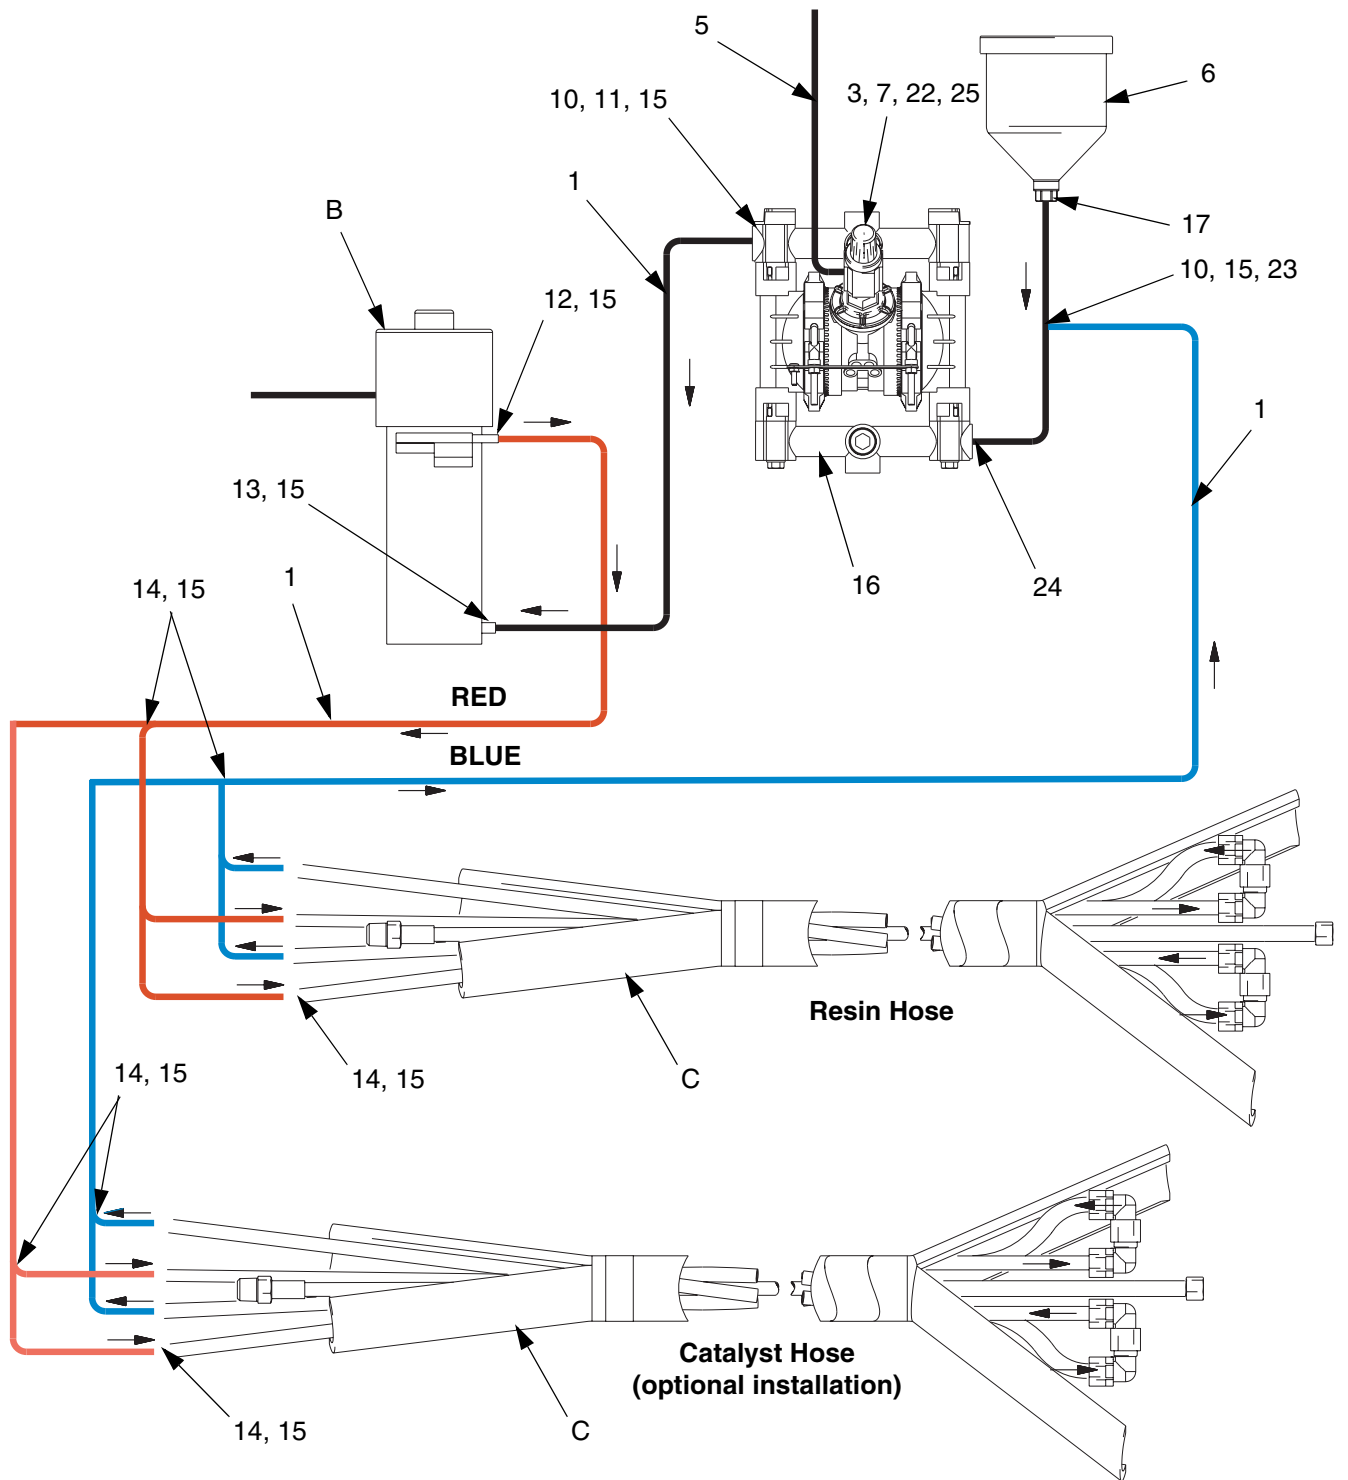
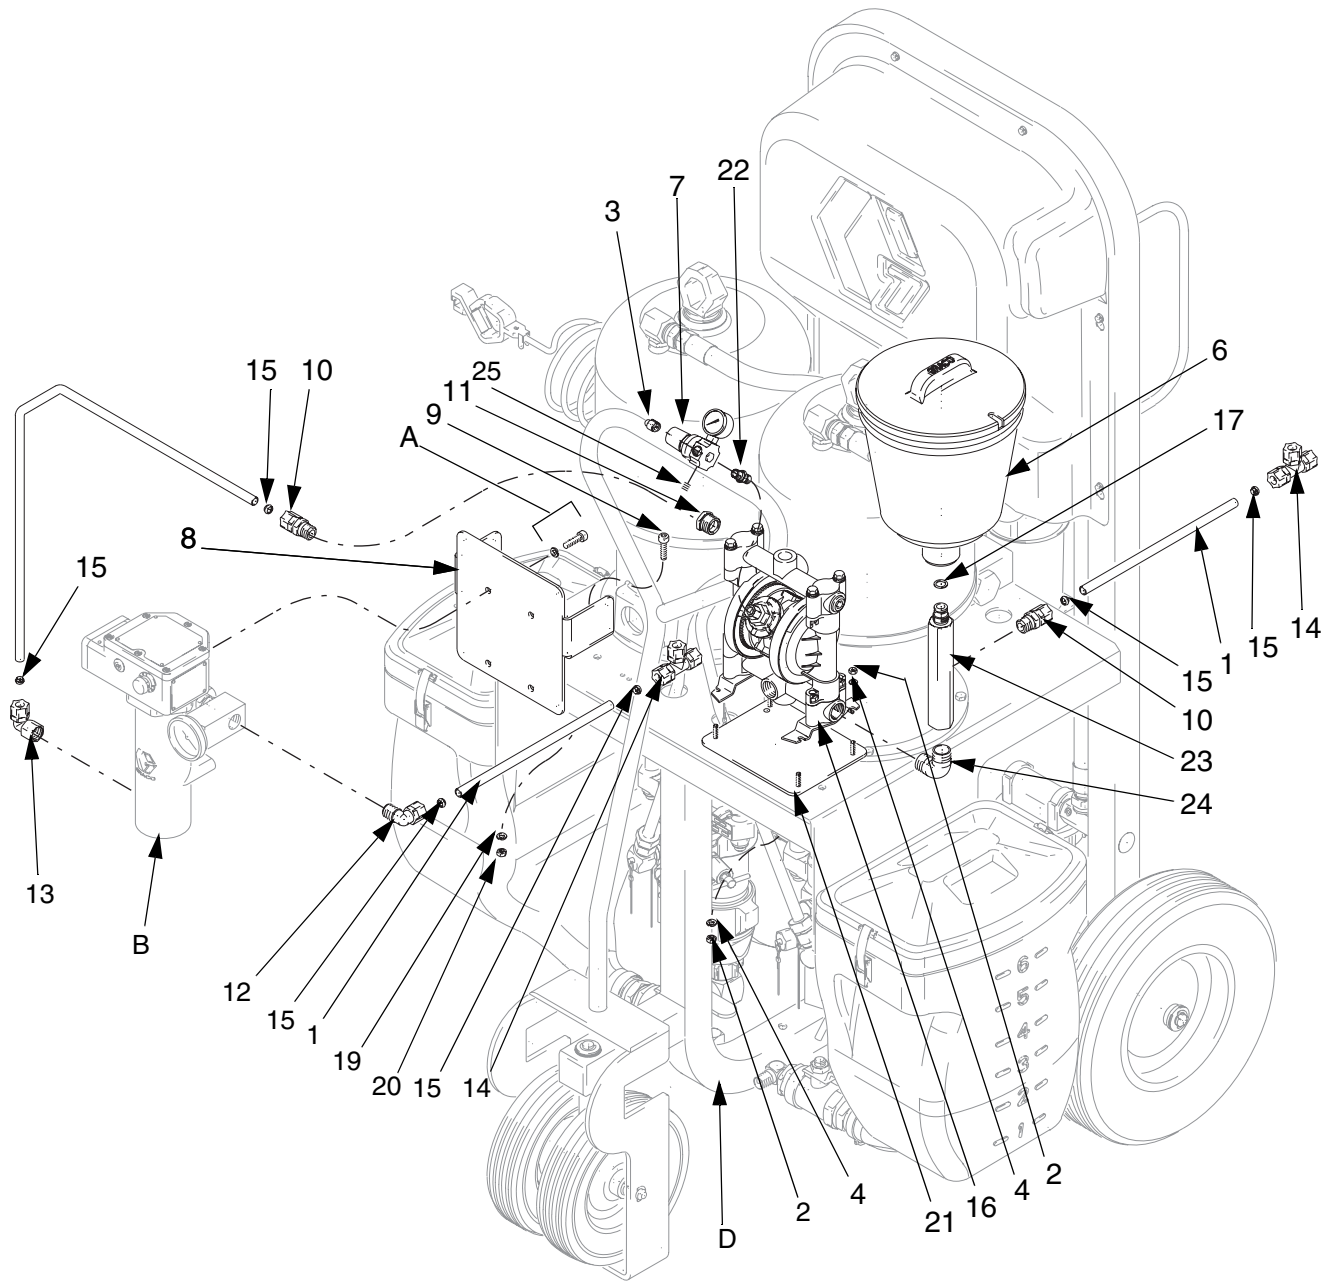

FIG. 1: Fluid and Air Line Connection Schematic
FIG. 2: Kit Installation
Refer to FIG. 1 and FIG. 2
4. Wire VISCON HP heater (B) to your voltage supply. Follow wiring procedure in the VISCON HP manual.
5. Connect elbow (24), fitting (23), o-ring (17), and reservoir tank (6) to Husky 716 pump (16). On other side of pump, install bushing (11) and tube fitting (10).
6. Connect tube fittings (12, 13) to the VISCON HP heater (B).
7. Interconnect reservoir tank (6), Husky 716 pump (16), VISCON HP heater (B), and heated hose (C-FIG. 1), using tubing (1), tube inserts (15) and fittings (10, 12, 13, 14) as described below.
1. Remove plastic u-turn fittings at the end of the heated hose assembly. See FIG. 1.
Refer to FIG. 2